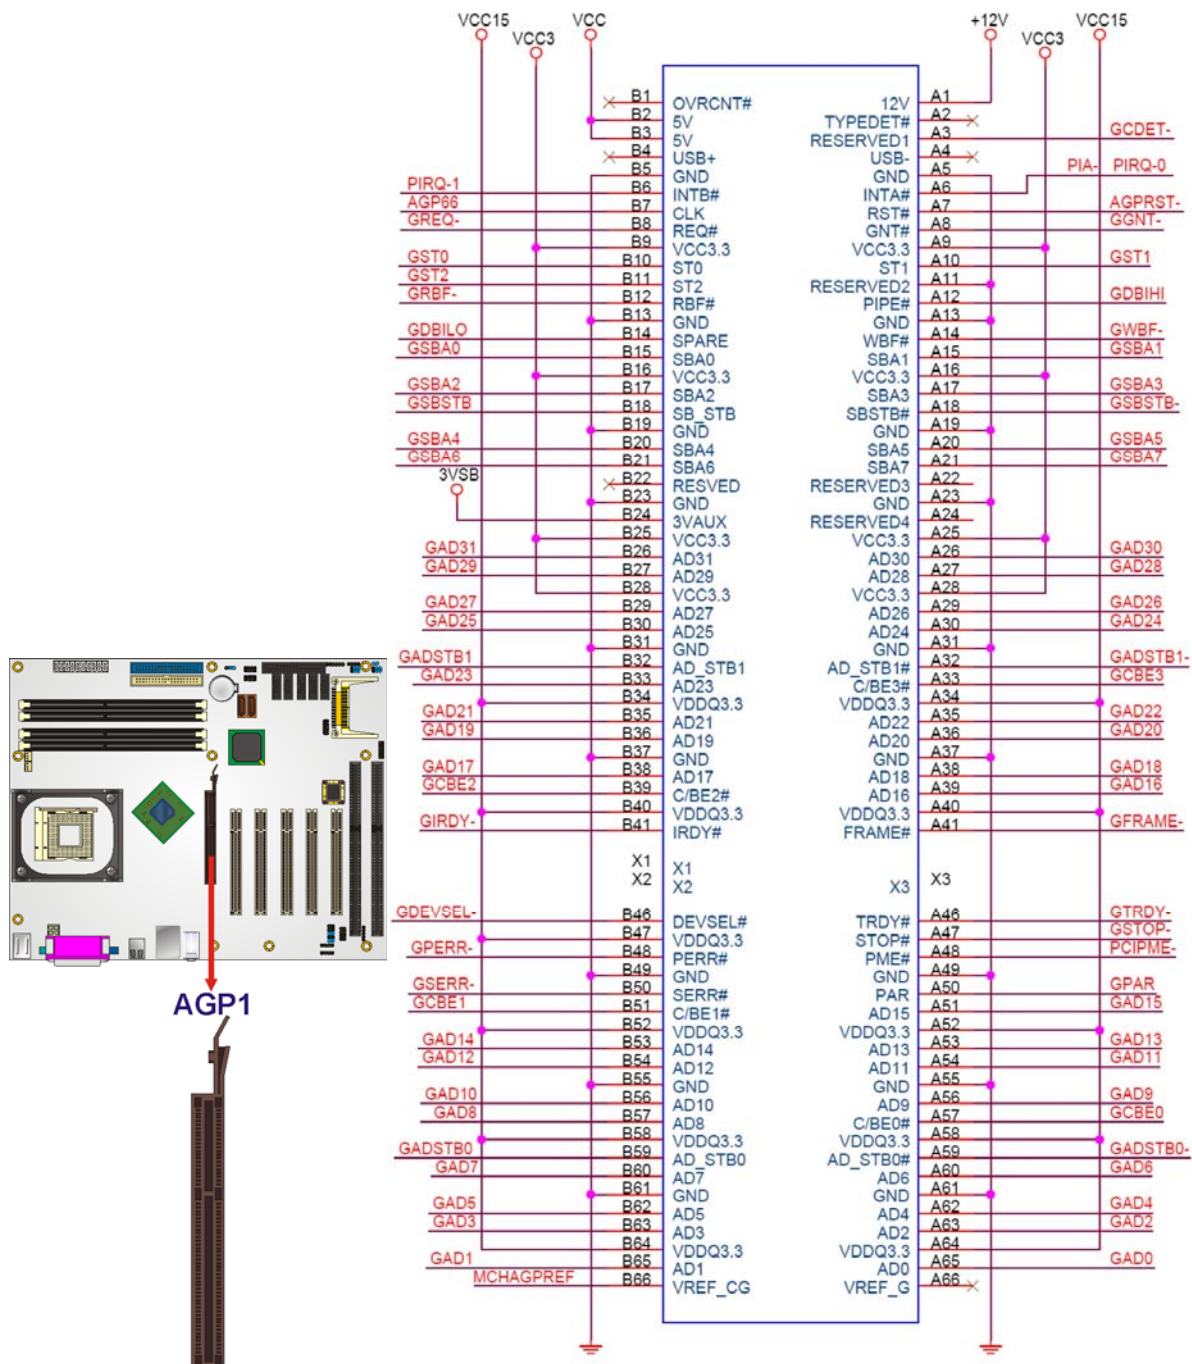

Figure 4-3: AGP Slot Location
- CN Location:** See **Figure 4-3**